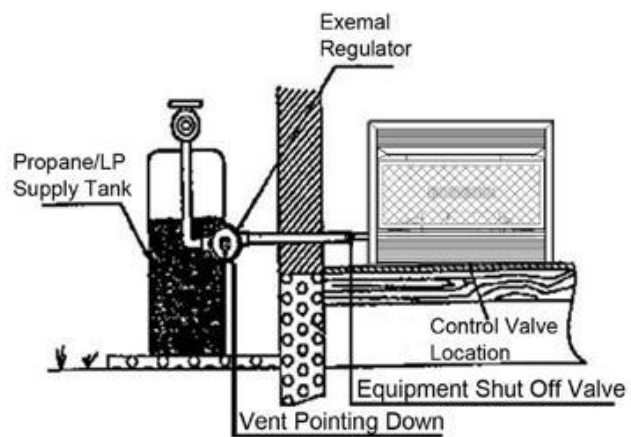

Figure 16 -Checking Gas Joints
4. Check all joints from equipment shutoff valve to control valve (Figure 16). Apply mixture of liquid soap and water to gas joints. Bubbles forming show a leak.
3. Check all joints from gas meter to equipment shutoff valve (see Figure 16). Apply mixture of liquid soap and water to gas joints. Bubbles forming show a leak.